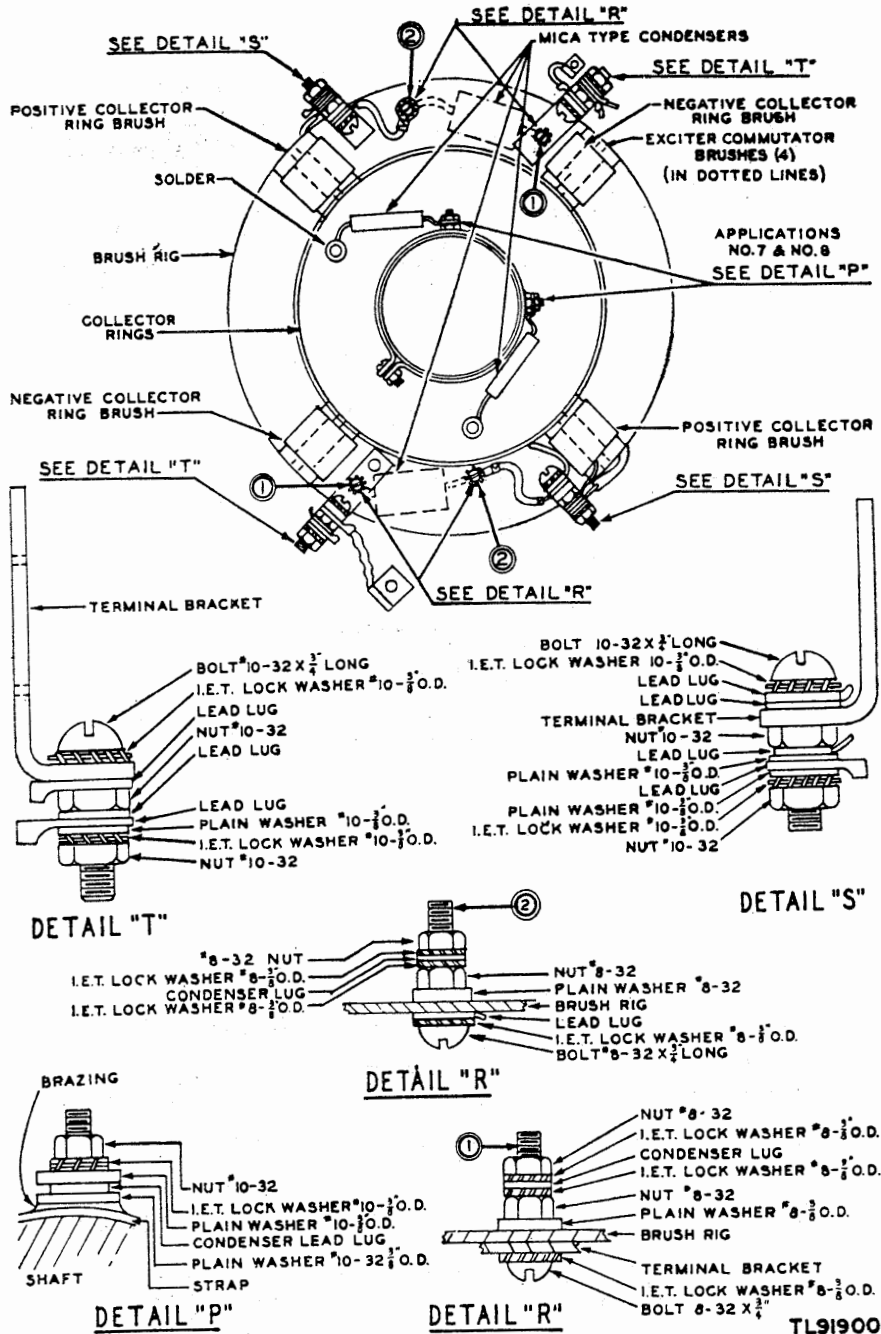

Figure 57. Brush rig, suppression details.
(9) Four 0.01-mf bakelite-cased mica capacitors are mounted on the generator brush rig and connected as shown in figure 57.
(10) A 0.1-mf metal-clad capacitor is con-